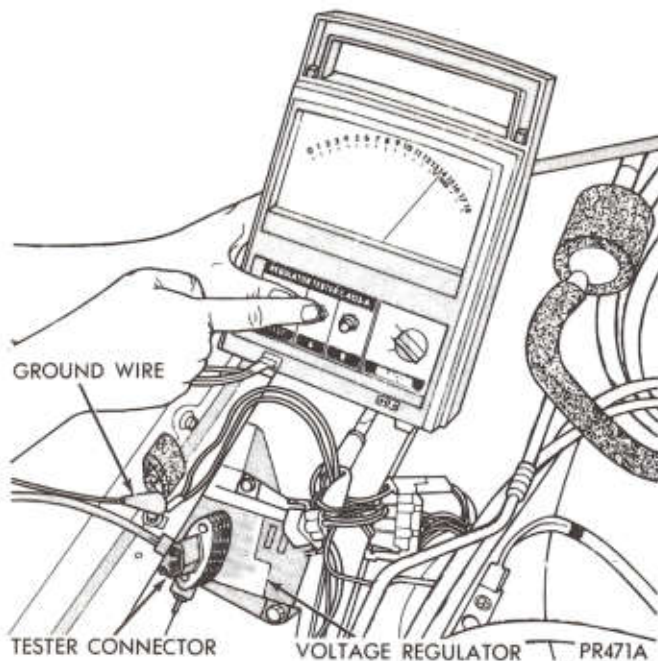

Fig. 5—Voltage Regulator Test Depressing Button "A"
(7) While holding test button in, depress Black Button (A) (Fig. 5), meter reading should remain within limits as follows: